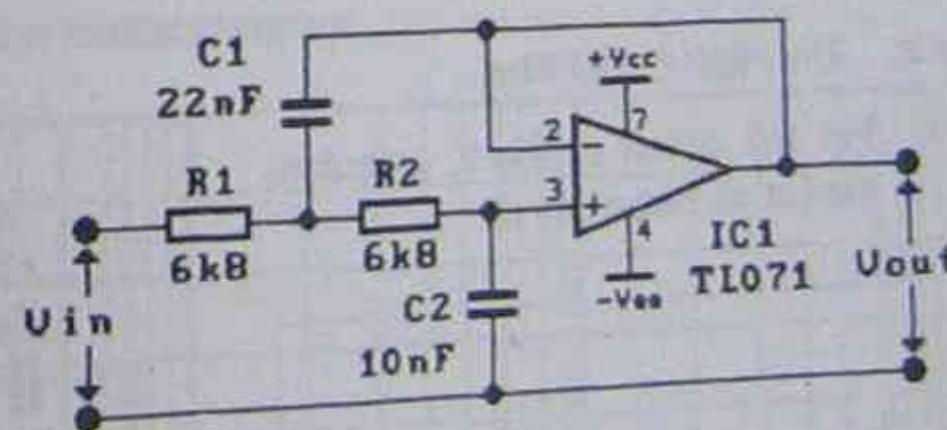

Fig.1: Low pass filter
For the circuit of Fig.1, calculate the cut-off frequency f_H .
- Construct the circuit of Fig.1.